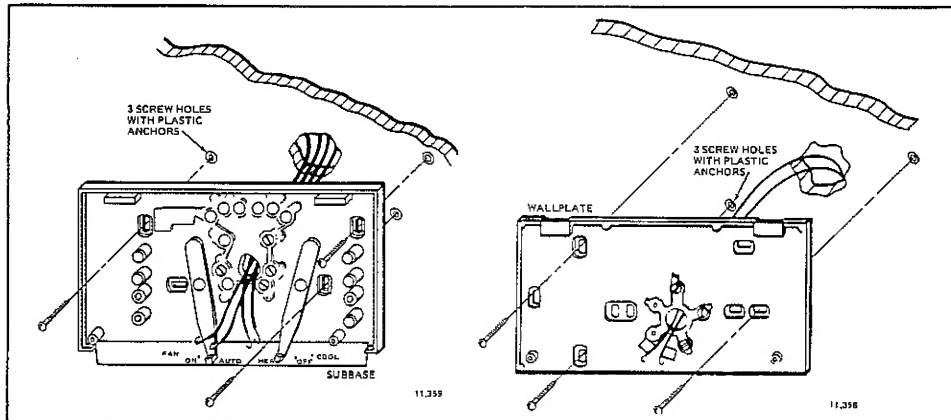

Fig. 2—Mounting wallplate or subbase to wall.
- ☐ Hold wallplate or subbase in position on wall as shown in Fig. 2.